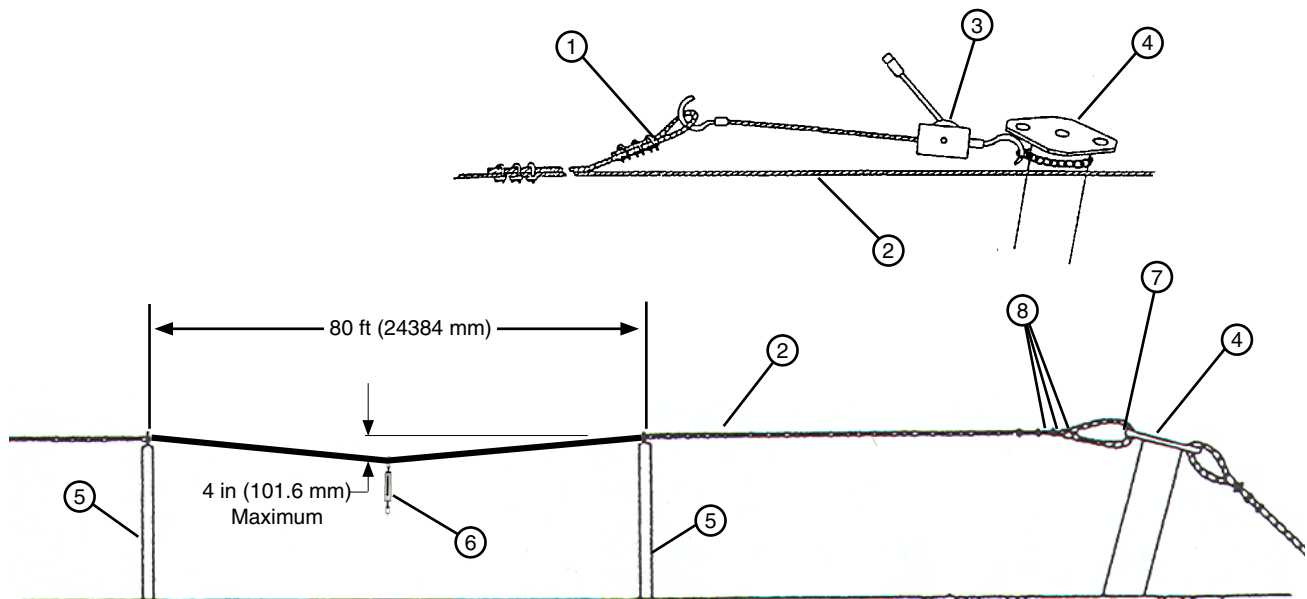

Figure 81-1 1. Pigtail Loop or Smooth Cable Grip 5. Support Stake
Bonding ground wire **MUST** be installed for proper ground between individual spans. See Figure 81-1.
1. Attach a 40 ft to 50 ft pigtail loop or smooth cable grip to the guidance cable. Attach a 2 ton cable puller to the pigtail loop/cable grip and end post. Use the cable puller to apply approximately 2000 lb of tension to the guidance cable. See Figure 81-1.
2. Take a static measurement of the guidance cable distance from the ground at the halfway point between support stakes. See Figure 81-1.
3. Hook a 0 to 50 lb fish scale on guidance cable at the halfway point between support stakes. See Figure 81-1.
4. Pull the fish scale toward the ground, hold it at 33 lb of tension and measure the deflected height of cable from the ground at the halfway point between support stakes. See Figure 81-1.
5. Subtract the deflected measurement from the static measurement. See Figure 81-1.
The guidance cable deflection should be no more than 4 in maximum. If the deflection is more than 4 in apply more tension to guidance cable with cable puller and repeat steps 3 through 5. See Figure 81-1.
6. After setting guidance cable tension, remove slack from guidance cable and attach to the end post with one 3/16 in cable thimble and three 3/16 in cable clamps. Remove cable puller and pigtail. See Figure 81-1.